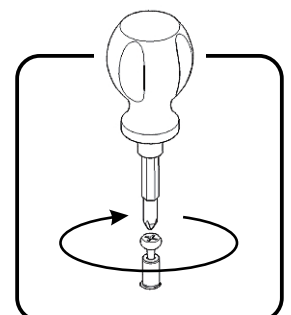

Figure 1
Insert Cam Lock Screws into pre-drilled holes in Top (A), Base (B), Plinths (C) and Middle Panels (H), (I), then tighten. (See Figure 1)